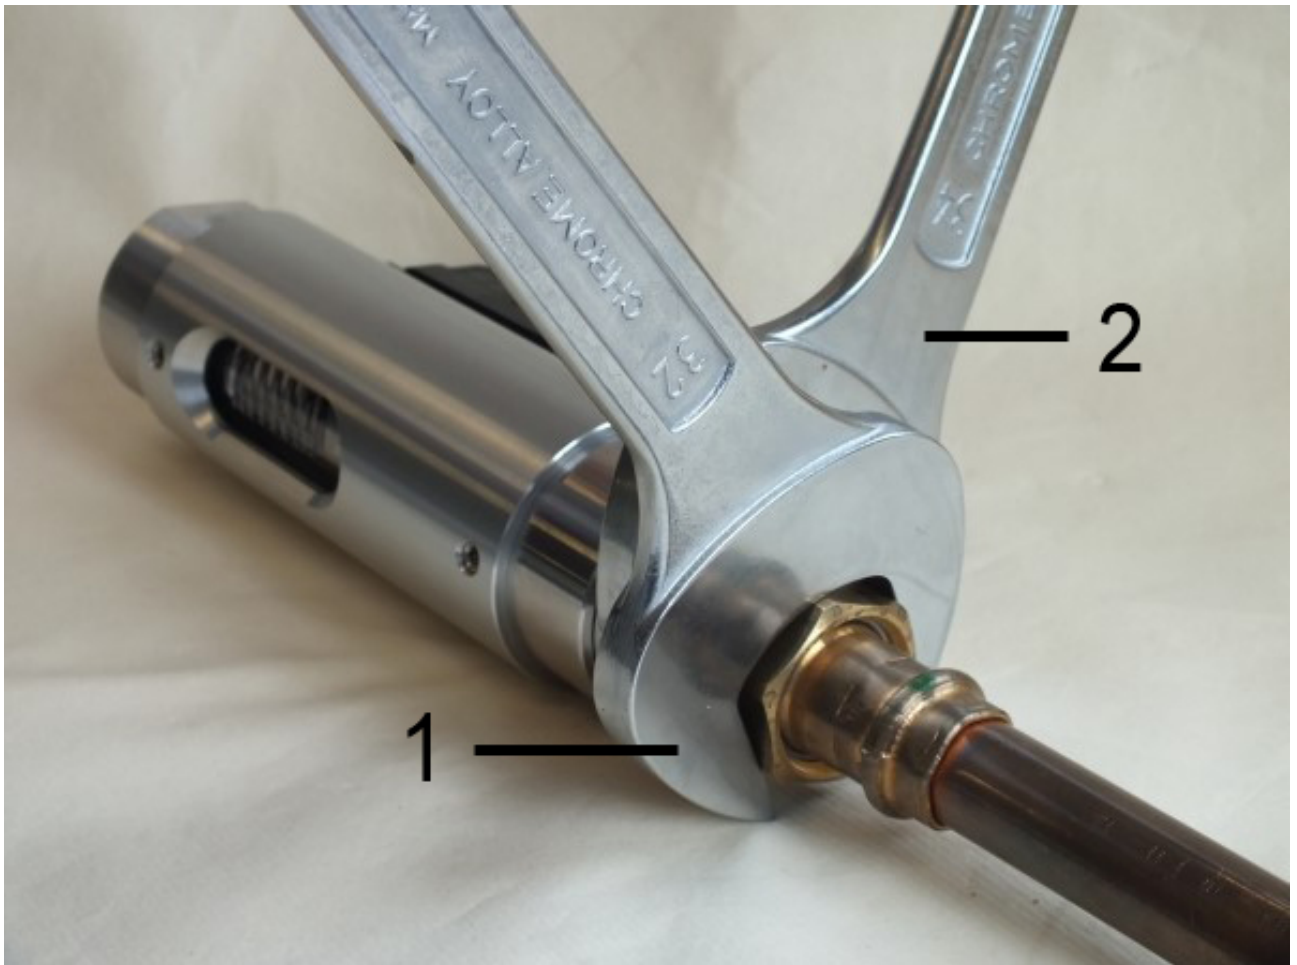

Fig. 12: Screw in the device
3. → Keep turning in the adapter union (Fig. 12/1) while holding the process connection of the device locked (Fig. 12/2) until the connection is tight